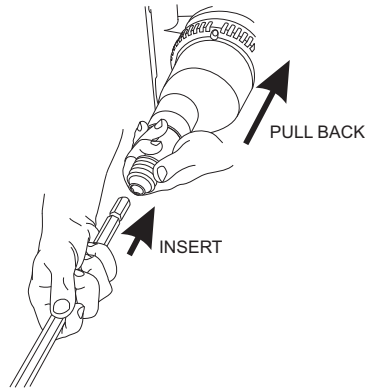

Figure 2. Inserting Mixing Tools
1. Insert the mixing tools into the HEXAFIX coupling as far as necessary to lock the tools in place, automatically (see Figure 2).